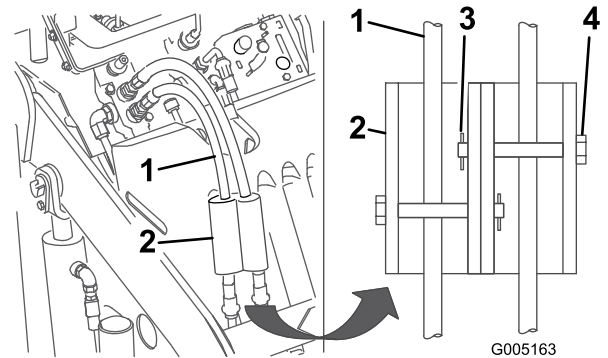

Figure 23
5. Secure each cylinder lock with a clevis pin and cotter pin (Figure 23).
7. Install the cylinder locks over the hydraulic hoses and secure them with the clevis pins and cotter pins (Figure 23).